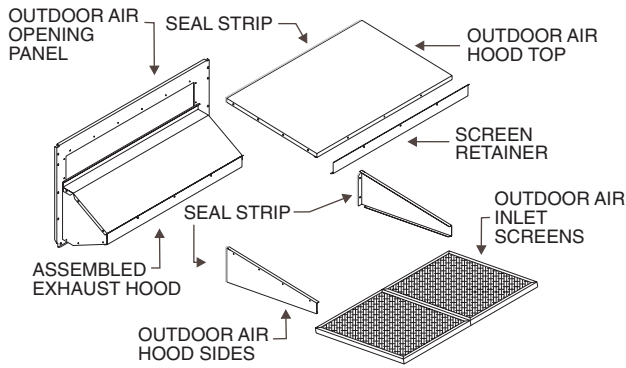

Fig. 5 — Outdoor Air Hood Assembly (Vertical EconoMiSer)
4. Install the 1/8 x 3/4 in. seal strip on the outdoor air hood top and side panels. Assemble the outdoor air hood to the outdoor air opening panel as shown in Fig. 5, using the screws provided. *Do not attach hood assembly to the unit at this time.*